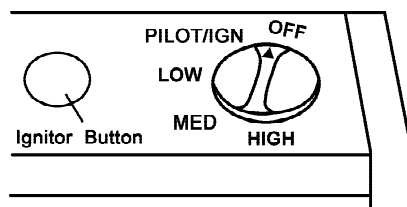

Figure 18 - Control Knob In The OFF Position
3. Push in control knob slightly and turn clockwise ↻ to the OFF position (see Figure 18).
5. Push in and turn control knob counterclockwise ↻ to PILOT position. Press in control knob for five(5) seconds.